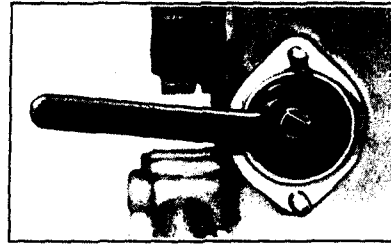

Fig. 44.—Wrench for Water Pump Drive Shaft Packing
Description: Fig. 44. A box wrench, 7 inches long, with handle offset $1\frac{1}{4}$ inches.
Directions for Use: (1) Remove the water pump and apply the wrench, as in Fig. 44. The right- and left-hand nuts turn in opposite directions to tighten. To tighten either nut, turn it in the direction in which the wheels rotate when the car is moving backward.
(2) To use the wrench for raising or lowering the radiator, refer to the Shop Manual under "Radiator."